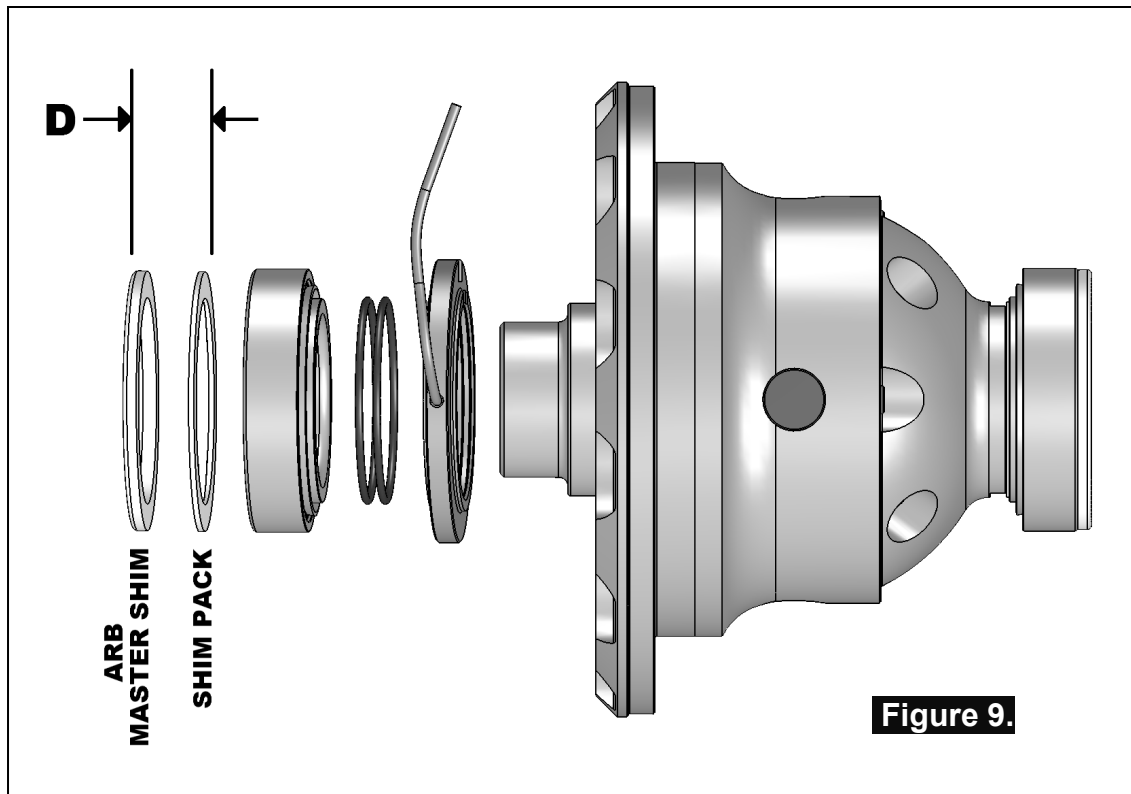

Figure 8.
- ☐ Mark a position on the top of the outside shell of the differential housing as shown in Figure 8.